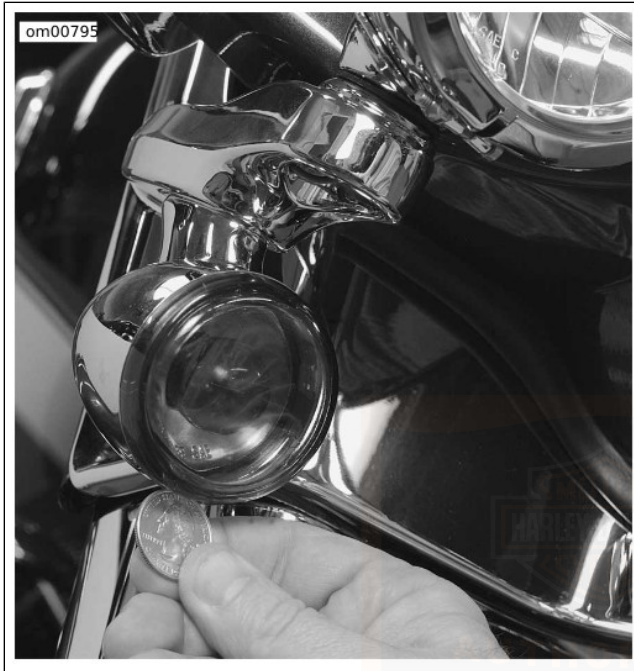

Figure 58. Lens Cap Notch: FLHTCUSE
1. See Figure 58. To access the front or rear turn signal bulbs for replacement, locate a notch on the turn signal lens cap.